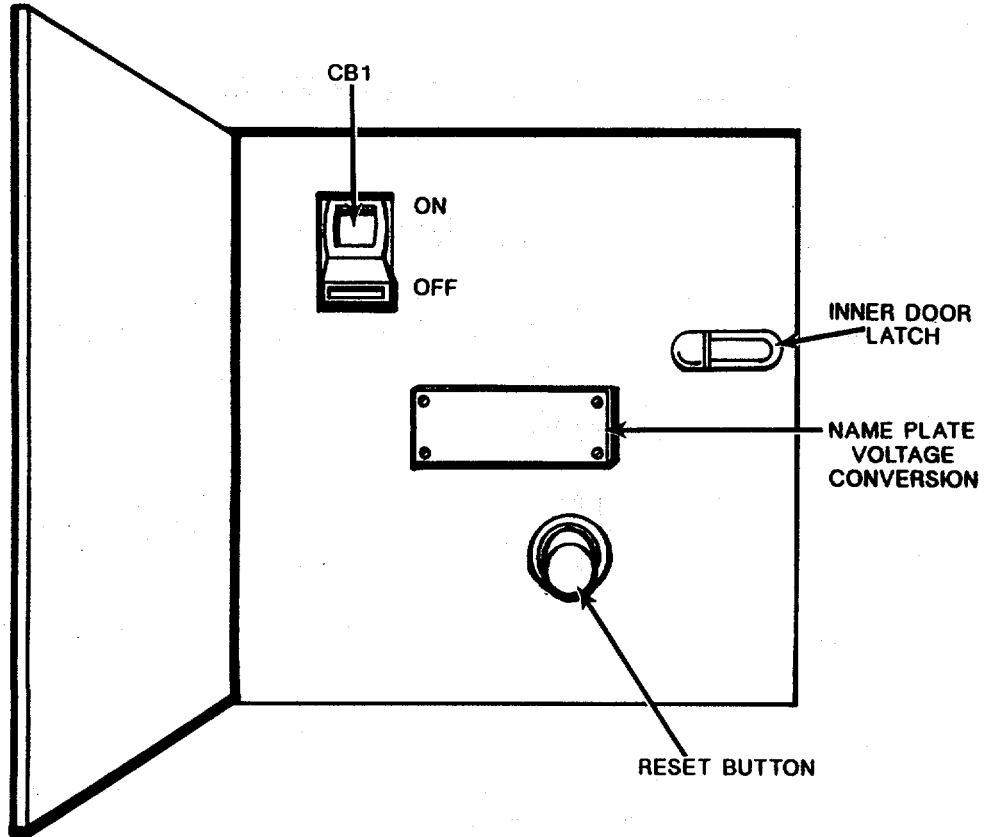

Figure 2-1. Electrical Component Box
- c. Set circuit breaker CB1 (Figure 2-1) to ON position to check fluid level.